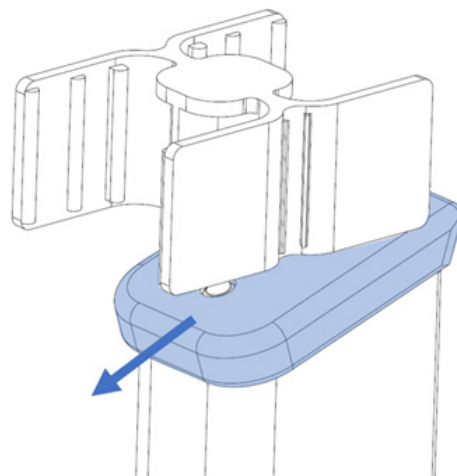

Figure 63: Direction to release the floor plate's clip.
4. With the tool/punch inserted, pull the magazine’s floor plate in the direction shown in Figure 63. You should feel the side clips that secure the magazine floor plate release.